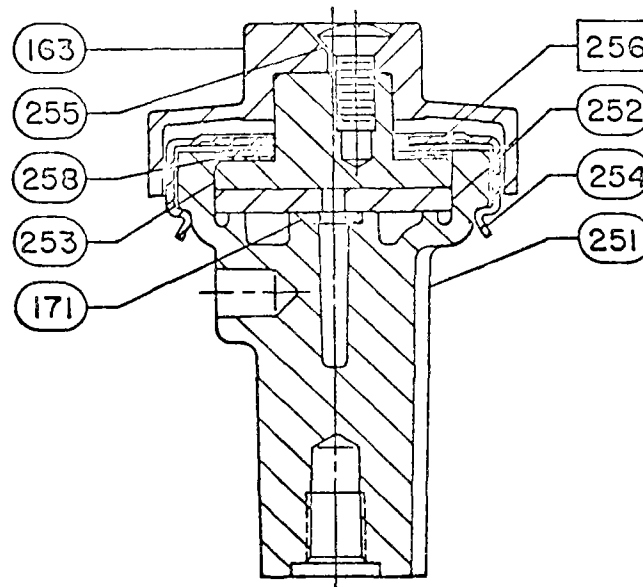

Figure 1. Reset Restriction Valve Assembly
This errata sheet adds to the instruction manual information on a washer that is a new part of the reset restriction valve and is shown as key 258 on figure 1 of this errata. If this washer is not used, damage to the reset restriction valve may result.
1. Page 15 -- Change step 5 to read: Remove the washer (key 258), the scratch valve (key 253), plate (key 252), and O-rings (key 171).
2. Page 16 -- Change step 2 to read: Replace the plate and scratch valve (key 253) and washer (key 258) in the body (key 251).